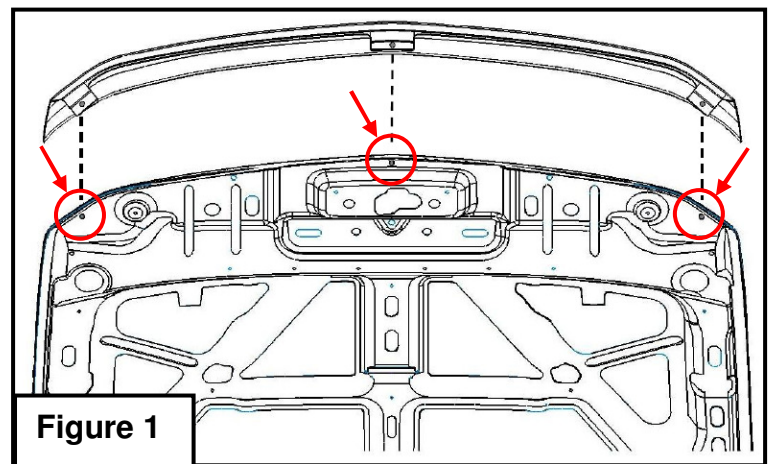

Figure 1
2. Trial fit Hood Shield by aligning the mounting holes of the Hood Shield with the matching holes in the hood. **(Figure 1)**
4. Re-fit Hood Shield to the factory hood by aligning the rubber well nuts up with the factory slots. **(Figure 1)** Attach Hood Shield to the vehicle by installing the center mounting point first and working outwards. Tighten screws just enough to hold hood shield in place.